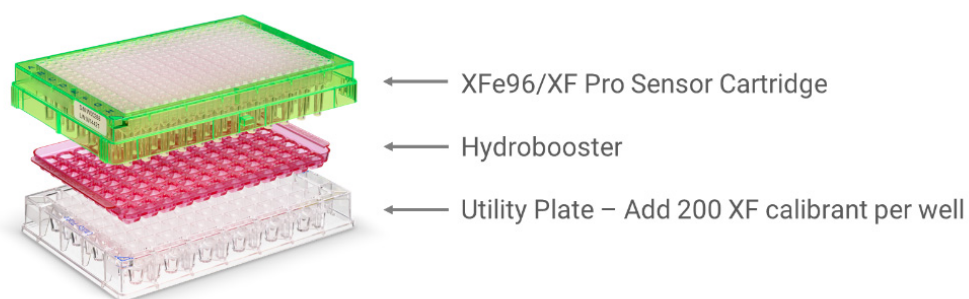

Figure 5. XF sensor cartridge, XF hydrobooster, and utility plate ensemble.
- 4 Lower the sensor cartridge onto the utility plate, submerging the sensors in the calibrant or water (see diagram in **Figure 5**)